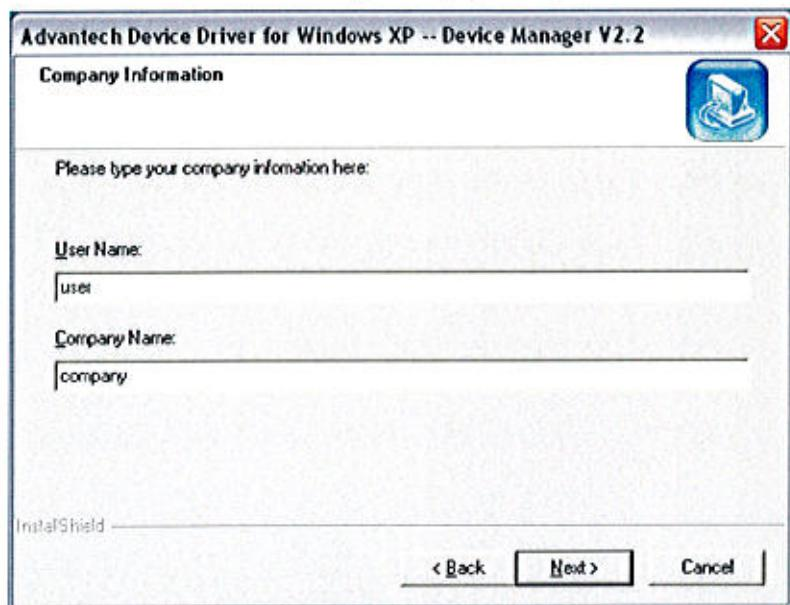

Figure 7 User Information Window
6. Read the terms of the license agreement and press 'Yes' if you accept. The User information window will appear (Figure 7).